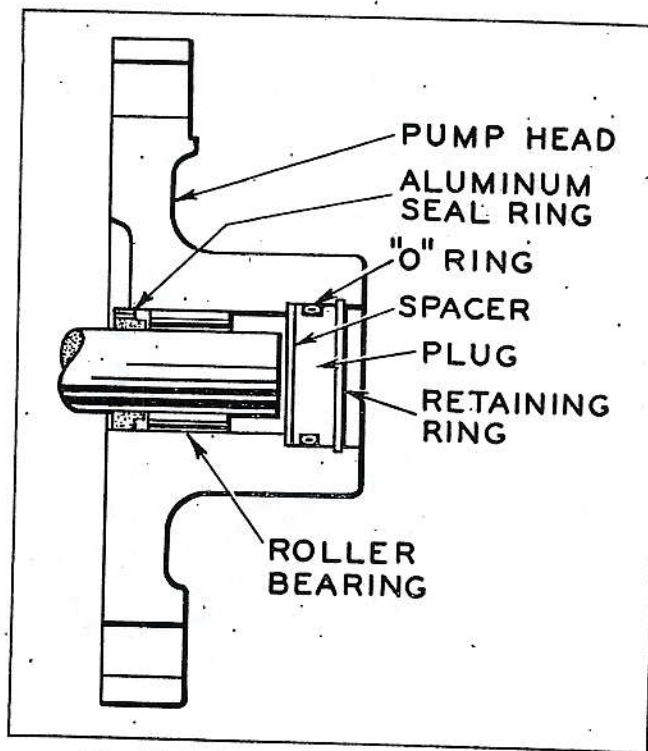

Fig. 13 - Assembly of Roller Bearing and Bearing Seals
- (e) The roller bearings, two in the seal body and two in the pump head, are pressed into place in their housings. An aluminum seal ring is also pressed into a position located between the pump gear and the roller bearings to seal the bearings from foreign material which may be carried through the pump with the liquid. See Fig. 13. A plug with "O" ring and retaining ring seals the openings at each end of the idler shafts and one end of the drive shaft.
1/16" from inside surface of seal body or pump body. Press new bearings into place so that end of bearing will just butt against seal ring. See Fig. 13.